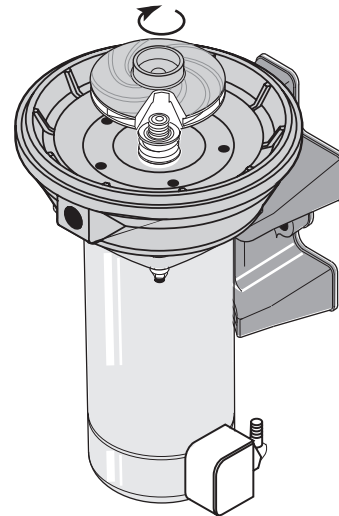

Figure 12
- I. Screw impeller on shaft (clockwise) while holding shaft with 7/16" open end wrench on shaft flats. This will automatically locate seal in place. See Figure 12.